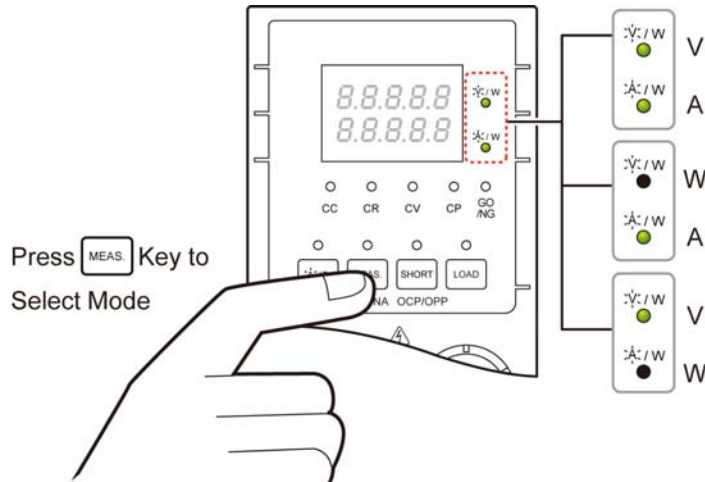

Figure 4-11 7-Segment Display for MEAS. V / A / W Switch
Pressing the **MEAS.** key can switch the measurement modes via the 7-segment display. There are 3 types of measure modes - Mode 1: Voltage (V) and Current (A); Mode 2: Power (W) and Current (A); Mode 3: Voltage (V) and Power (W), see Figure 4-11.